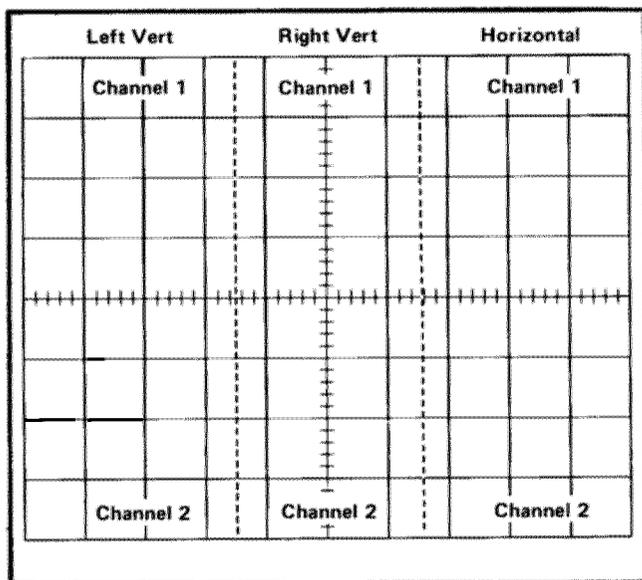
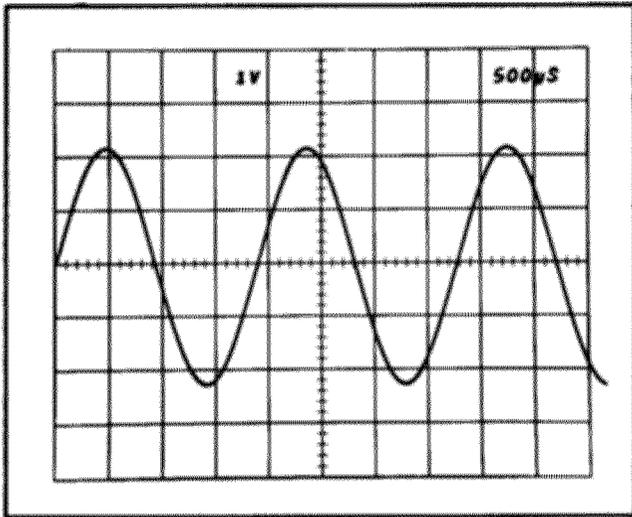

Fig. 3-24. Location of readout words on the CRT identifying the originating plug-in unit and channel (one complete frame shown, simulated readout).
Fig. 3-26. Typical readout display where only channel 1 of the Right Vertical and Horizontal units is displayed.
Frame—A frame is a display of all words for a given operating mode and plug-in combination. Up to six words can be displayed in one frame. Fig. 3-24 shows one complete frame (simulated readout) and the position at which each of the six words is displayed.
Display Format. Up to six words of readout information can be displayed on the 7613 CRT. The position of each word is fixed and is directly related to the plug-in unit from which it originated. Fig. 3-24 shows the area of the graticule where the readout from each plug-in unit is displayed. Notice that channel 1 of each plug-in unit is displayed within the top division of the CRT and channel 2 is displayed directly below within the bottom division. Fig. 3-26 shows a typical display.
The Character Generator stage produces the characters which are displayed on the CRT. Any of the 50 characters shown on the Character Selection Matrix of Fig. 3-24 can be addressed by proper selection of the column and row current. Only one character is addressable in any one time-slot; a space can be added into the displayed word by the Decimal Point Logic and Character Position Counter stage when encoded by the plug-in. The latter stage counts how many characters have been generated and produces an output current to step the display one character position to the right for each character. In addition, the character position is advanced once during each of time-slots 1, 2, and 3 whether a character is generated during these time-slots or not. This action fixes the starting point of the standard-format display such that the first digit of the scaling factor always starts at the same point within each word regardless of the information encoded in time-slot 2 (normal/invert) or time-slot 3 (cal/uncal) which precedes this digit. Also, by encoding row 10 and column 0 during any time-slot, a blank space can be added to the display. Decimal points can be added to the display at any time by addressing row 7 and columns 3 through 7 (see Character Selection Matrix for location of these decimal points). The Decimal Point Logic and Character Position Counter stage is reset after each word by the Word Trigger pulse.
The Format Generator stage provides the output signals to the vertical and horizontal deflection systems of the instrument to produce the character display. The binary Channel Address No. 2 code from the Channel Counter stage is connected to this stage so that the display from each channel is positioned to the area of the CRT which is associated with the plug-in and channel originating the word (see Fig. 3-24). The positioning current or decimal point location current generated by the Decimal Point Logic and Character Position Counter stage is added to the horizontal (X) signal at the input to the Format Generator stage to provide horizontal positioning of the characters within each word. The X- and Y-output signals are connected to the Horizontal Amplifier and Vertical Amplifier through the Horizontal Output and Vertical Output stages respectively.